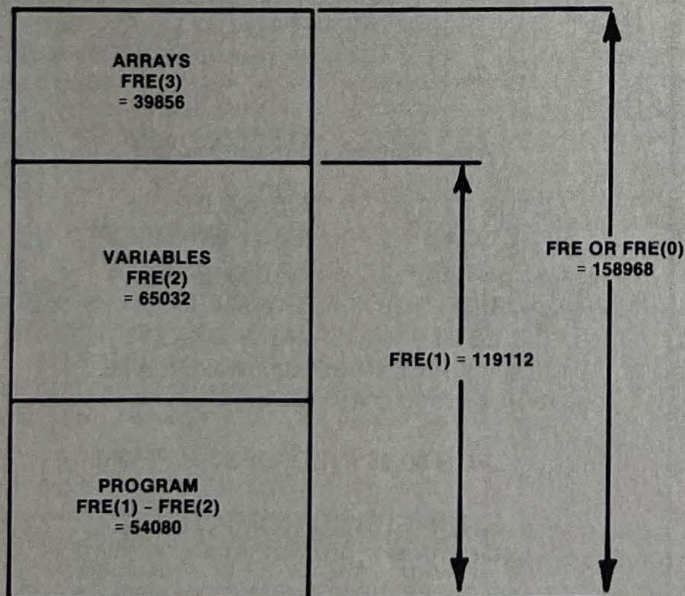

Figure 1
You can also investigate the Sanyo memory allocations for program variables and arrays in SBASIC, but not BASICA. While in SBASIC, with no program in memory (type NEW and press ENTER to be sure), ?FRE or ?FRE(0) will display the number of free bytes available to the user. ?FRE(1) displays the total bytes available for the program and its variables. ?FRE(2) displays variable space only, and ?FRE(3) displays array space only. ?FRE(1) - ?FRE(2) displays the program area only. Figure 1 shows the results I got.